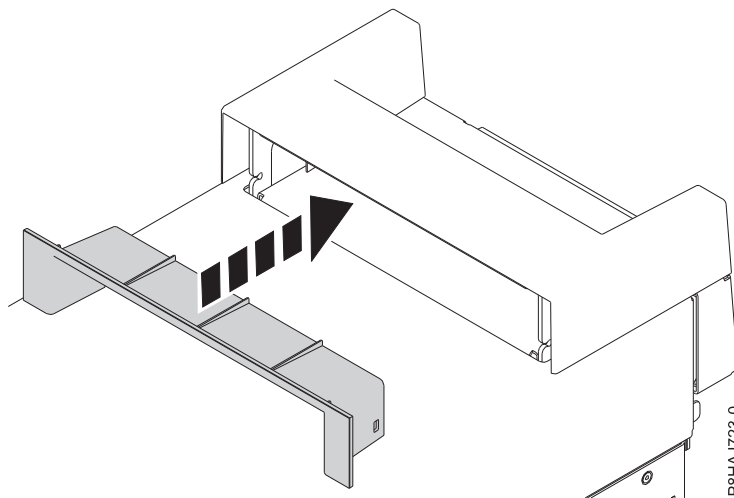

Figure 67. Inserting the piece within the handle cover on an 8286-41A stand-alone system
2. Insert the piece within the handle cover by pushing it firmly into the handle cover as shown in Figure 67.